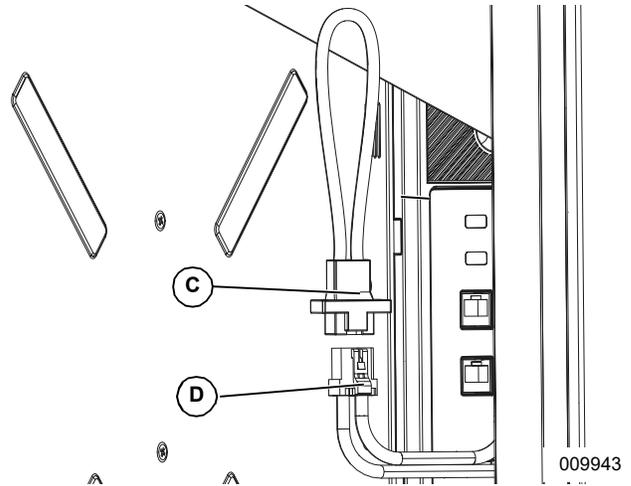

Figure 4-28. Installing Loop Jumper
3. See Figure 4-28. Install loop jumper (C) on every unused power cord connector (D).